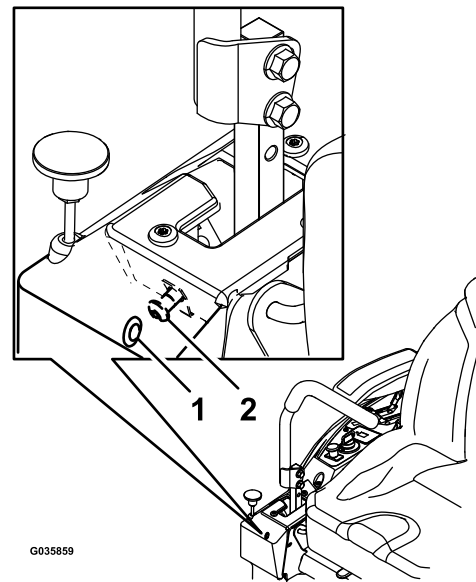

**Figure 54**
**Note:** The upper hoop of the roll bar may need to be pushed forward or pulled rearward to fully engage both knobs (Figure 53 and Figure 54).